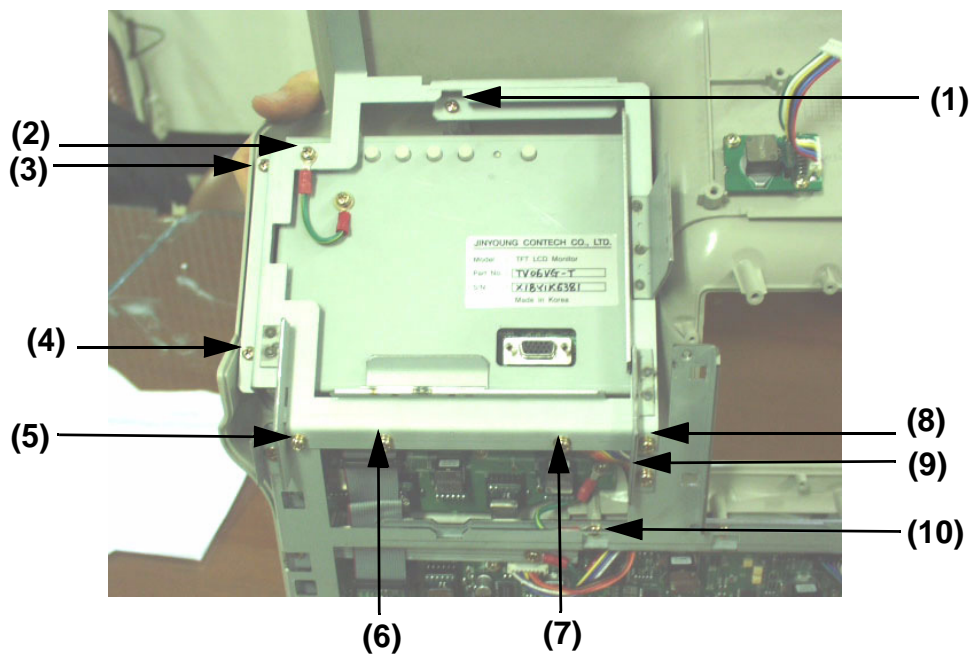

Figure 8-42 Unscrew 10 screws from the LCD brkt
- 1.) Unscrew ten screws (1-10) from the LCD prefix bracket to remove it. Refer to Figure 8-42.